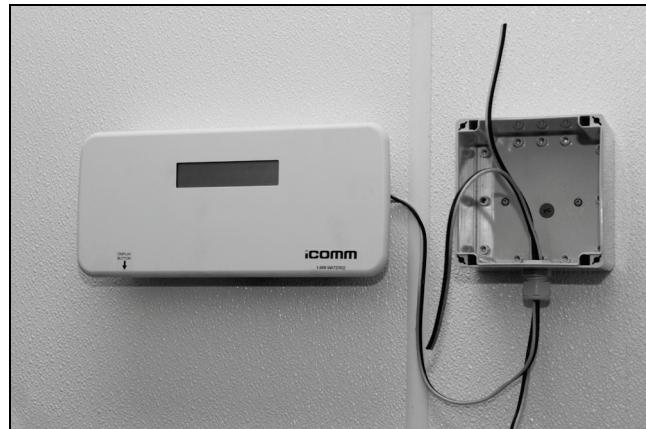
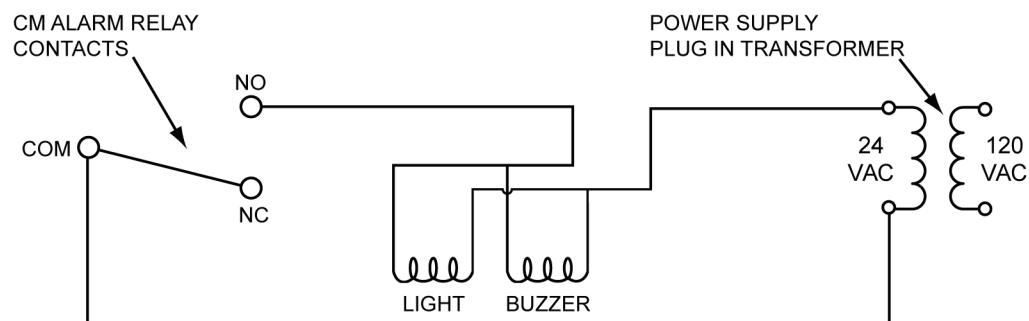

Figure 4
Figure 5
- 1 Cut two pieces of the included 18/2 SJ cord (Table 1 on page 1) to length. Cut the first piece of wire to run between the Alarm Box and the right edge of the iCOMM™ system's CM (communication module) see Figure 1 on page 1 and Figure 4. Cut the second piece to run between the Power Supply plug in transformer (Table 1 on page 1) and the Alarm Box.
- 2 Feed one end of the wires cut in Step 1 through the compression fitting on the Alarm Box - see Figure 3 on page 3. Leave enough wire inside the Alarm Box enclosure to make the wiring connections shown in Figure 5 on page 5. Tighten the compression fitting.
- 3 Strip 1/4" of insulation from the ends of all four wires inside the Alarm Box enclosure. Using the included wire nuts (Table 1 on page 1) connect the wiring as shown in the Connection and Wiring diagrams in Figure 5 on page 5.
- 5 Ensure the low voltage wiring is properly connected to the 24 VAC output connections on the Power Supply plug in transformer as shown in the Connection and Wiring diagrams in Figure 5 on page 5. If necessary strip 1/4" of insulation from the two wire ends leading to the plug in transformer and make the connections.
- 6 Strip 1/4" of insulation from the two wire ends leading to the "ALARM" wiring terminal on the CM. Connect these two wire ends to the "C" and "NO" terminals on the "ALARM" wiring terminal - see the Connection and Wiring diagrams in Figure 5 on page 5 and Figure 4. Unplug the "ALARM" wiring terminal from the CM when making these connections and tighten the terminal screws securely. Plug the "ALARM" wiring terminal back into the designated Alarm socket on the CM when finished.